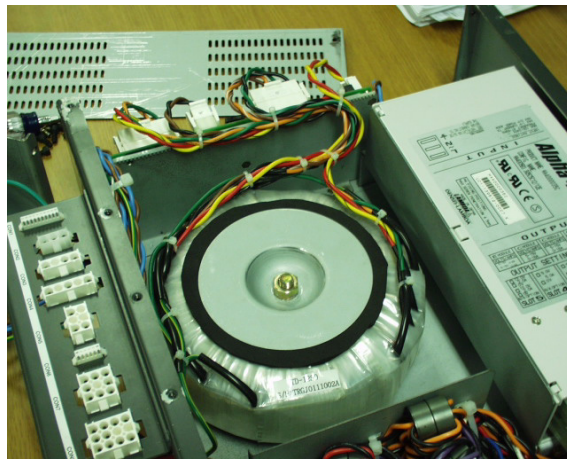

Figure 8-181 Removing the Transformer
7.) Unscrew one nut in the Center top of the Transformer. Refer to Figure 8-181.